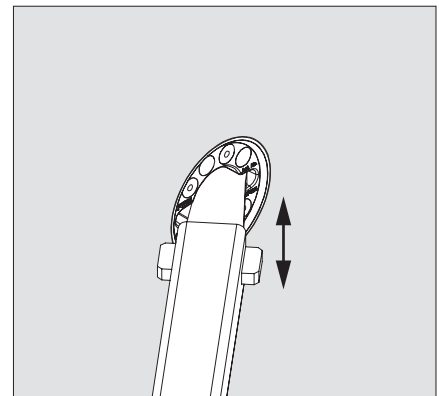

Fig. A6.17b
3. Insert the bracket (57.1) into the guide groove of the Magnetic Cone MX18 (56) from the left and clean the slot. (Fig. A6.17b)